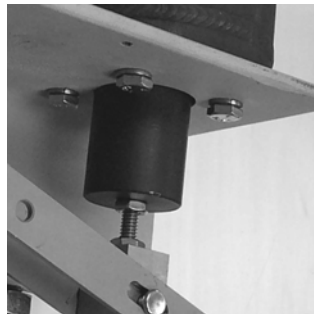

Figure 2 – Solenoid plunger and lever connection
3. Measure the location of the plunger in relation to the bracket when the valve is fully closed. Ref. Figure 2.